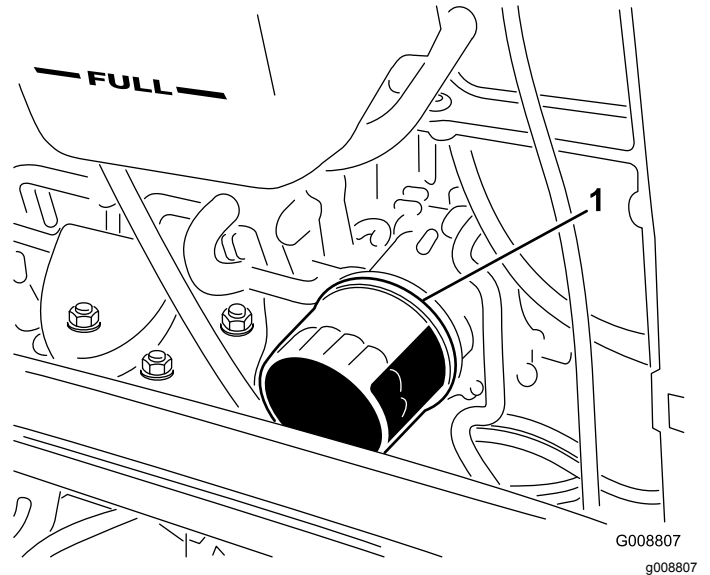

Figure 33
2. Remove the oil filter (Figure 33). Apply a light coat of clean oil to the new filter seal before screwing it on. Do not overtighten.